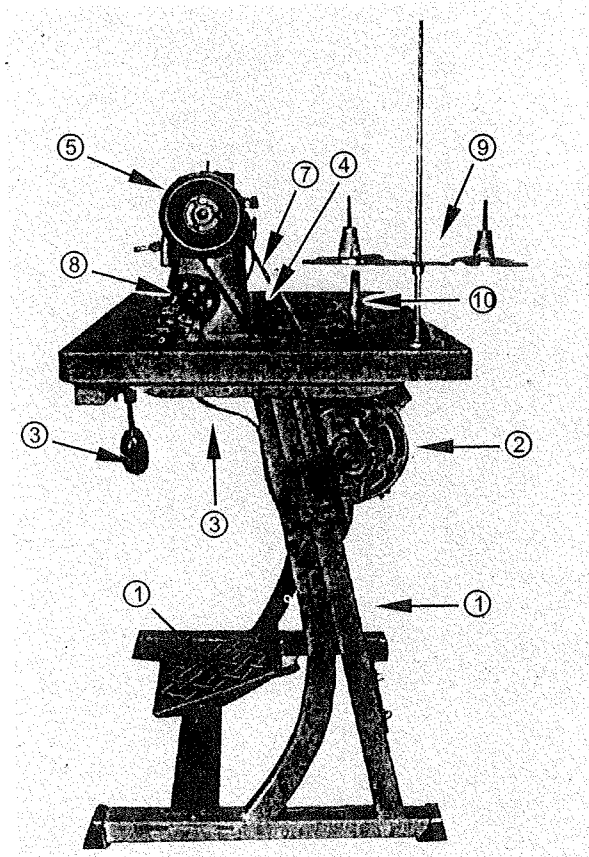

Fig.1
SETTING UP THE MACHINE (Fig. 1)
1. Push a bobbin on the bobbin winder spindle ③ as far as it will go.
2. Pass the thread from the thread stand downward through the eye ① in the tension bracket, then between and around the back of the tension disc ②.
4. Push the lecer ④ toward the other side so that the pulley and V belt (⑦ Fig.1) will engage and then start the machine.